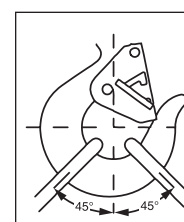

Figure 5
- When placing two (2) sling legs in hook, make sure the angle from the vertical to the outermost leg is not greater than 45 degrees, and the included angle between the legs does not exceed 90 degrees* (See Figure 5).